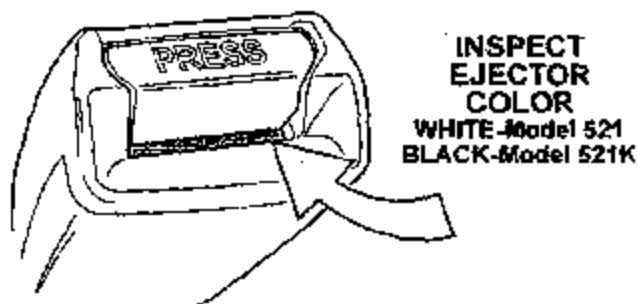

Figure 1
3. **For Colt and Raider vehicles only:** To determine which parts package is required for the vehicle being serviced, inspect the color of the seat belt tongue ejector (Figure 1). If the ejector is white, the buckle assembly is a Model 521 and the vehicle requires the appropriate color buckle cover parts package for **Recall #651**. If the ejector is black, the buckle assembly is a Model 521K and the vehicle requires the appropriate color parts package for **Recall #652**.